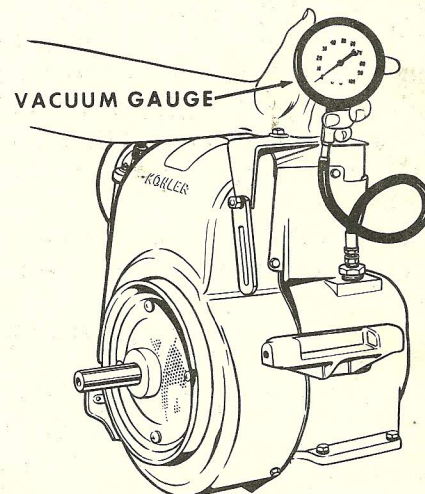

Figure M-2
2. Attach vacuum gauge to pipe plug, Figure M-2. Start engine and run at low idle speed. Refer to Specification Section for proper vacuum.